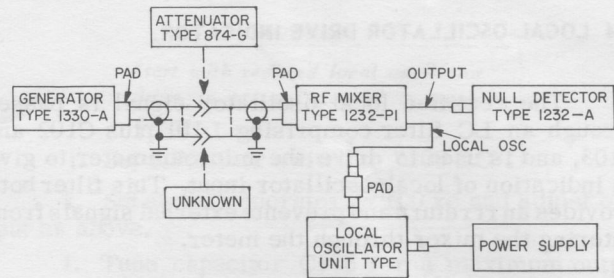

Figure 3-1. Attenuation test set-up (70 kc - 10 Mc) utilizing Type 1232-P1.
The equipment setup shown in Figure 3-1 permits
a. Arrange the equipment as shown in Figure 3-1 (attenuation standard in the circuit); apply power and allow for warm-up.